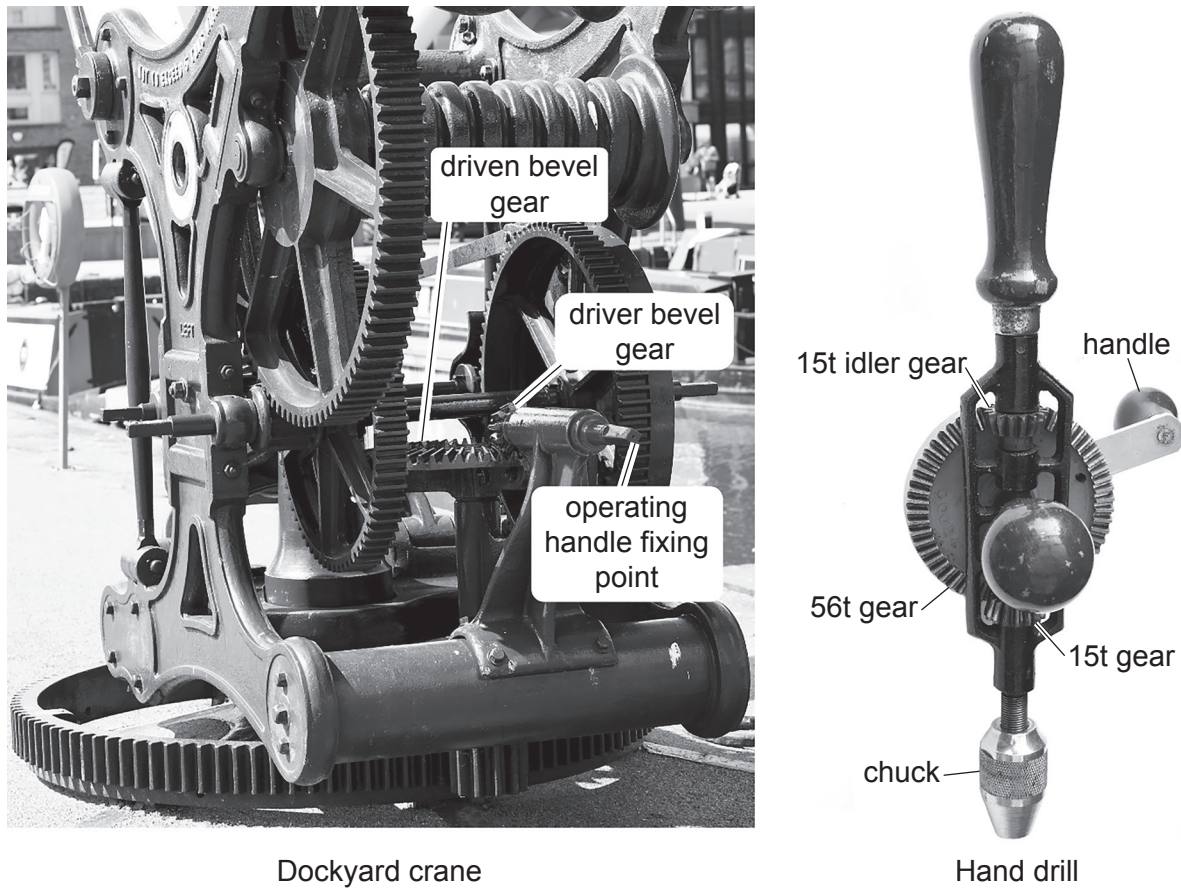

Fig. 11.1
11 (a) Fig. 11.1 shows two uses for bevel gears.
(i) Use the terms below to complete the description of what is happening in the two examples in Fig. 11.1.
- (iii) In both examples in Fig. 11.1 the operational conditions could affect the working life of the gears.